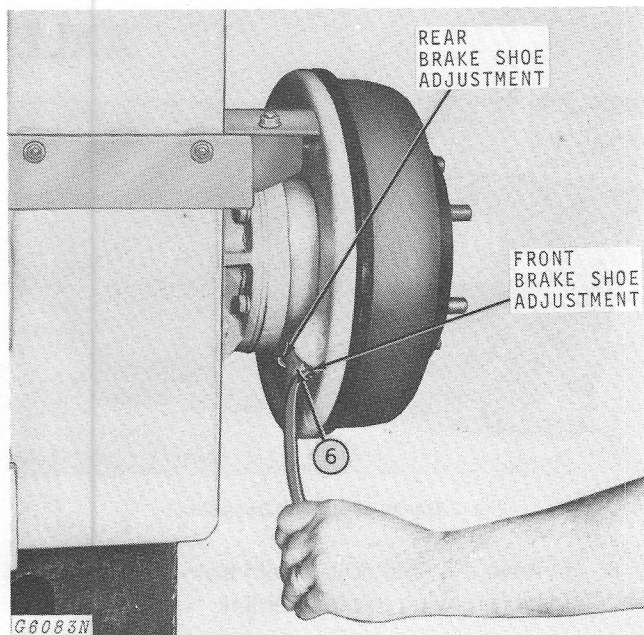

Fig. 4-Removing Brake Drum
6. Back off the adjusting spur for the rear and front shoe of the brake (Fig. 4). Remove the brake drum.